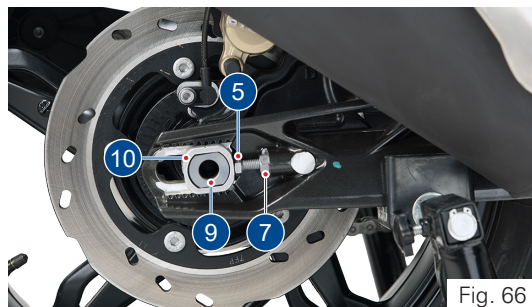

Fig. 66
- Remove the chain tensioner with hugger (8) and push the quick-release axle to the right as much as possible (ref. Fig. 66).
- Carefully pull out the quick release axle (9) from the left side and take out the chain tensioner (10) (ref. Fig. 66).